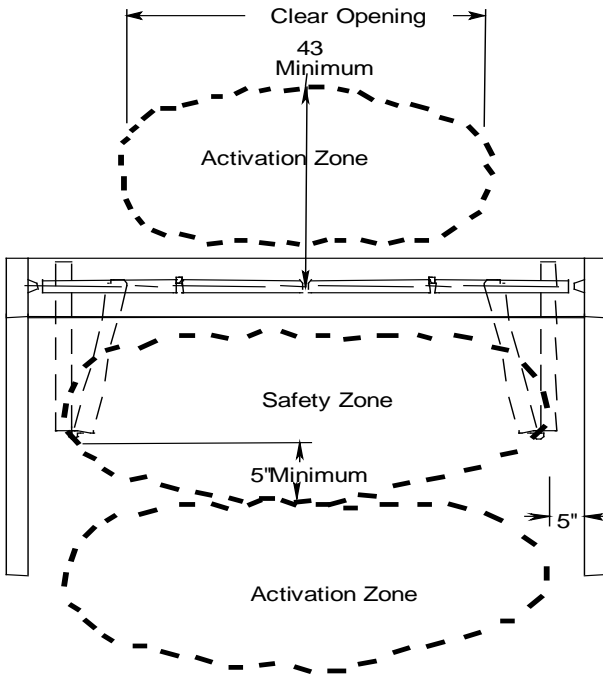

Figure 1
3. Approach the fold side of the door first, then have someone else approach the opposite side of the door. As long as you are in the safety area (fold area) of the door, it should not open. (See Figure 1)